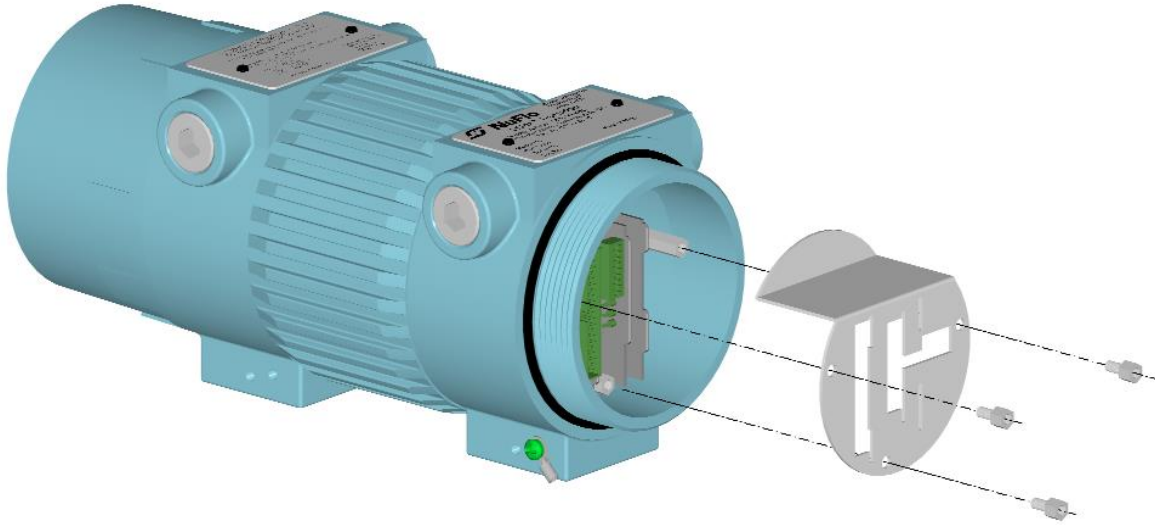

Figure 8.11: Rear Access Panel Removal
4. Push site cabling aside as required. (Note: It is assumed that the conduit and site cabling will be installed.) Remove the three hex standoffs holding the rear access panel in place (Figure 8.11) and lift the panel from the enclosure. The three acoustic processing boards (IOB, CTC, and MXR as installed left to right) are now visible.